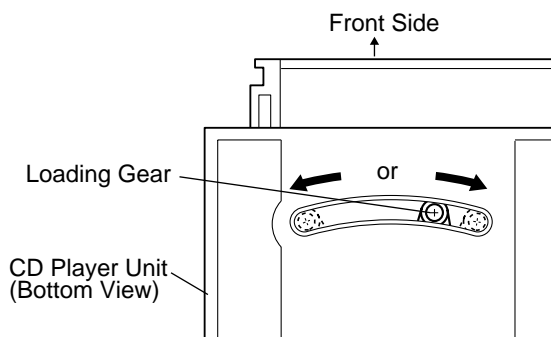

Figure 5-3
**Note 1:** How to open the changer manually. (Fig. 5-3)